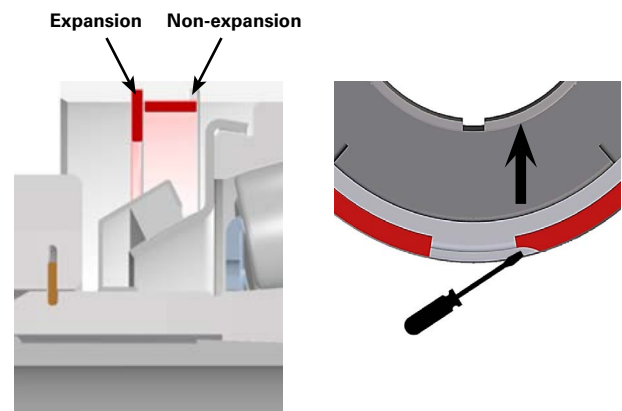

Figure 2
Step 1: Look in the housing bore on the locking end of the bearing and locate the snap ring. There are 2 snap ring grooves where the position of the snap ring determines if the bearing is a non-expansion or expansion design. **See figure 2.**